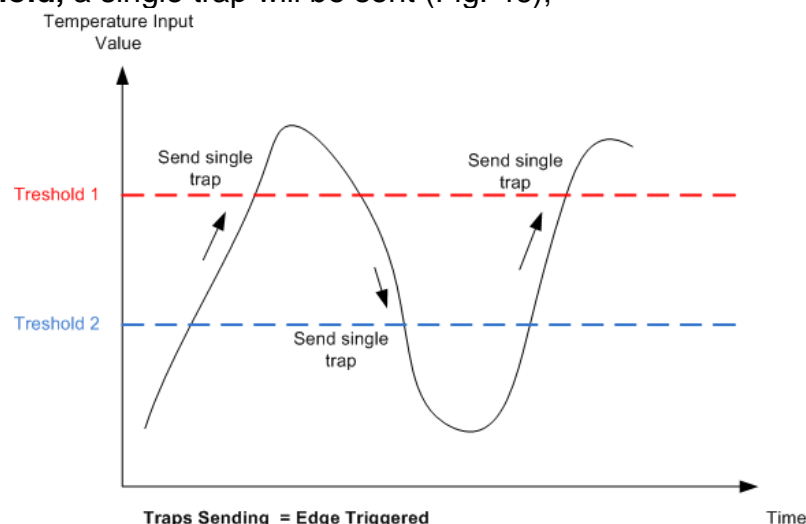

Figure 46. Sending tarps with **Traps Sending** = "Edge Triggered"
- If **Traps Sending** parameter from web page "**SNMP Traps Settings**" is set to "**Edge Triggered**" and if the rising Temperature Input value the **High Threshold** or the falling Temperature Input value crosses the **Low Threshold**, a single trap will be sent (Fig. 46);